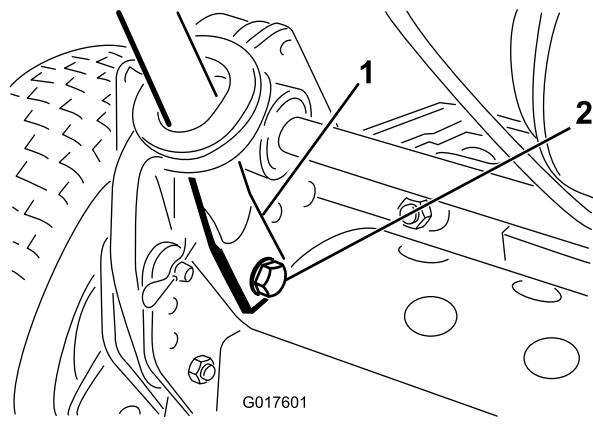

Figure 3
4. Squeeze the handle ends inward and install them on the mounting pins (Figure 3).
5. Secure the handle ends to the mounting pins with the bolts, washers, and lock washers previously removed (Figure 3).
6. Secure the handle arms to the rear of the frame with the hairpin coppers and the ring pins previously removed (Figure 3).